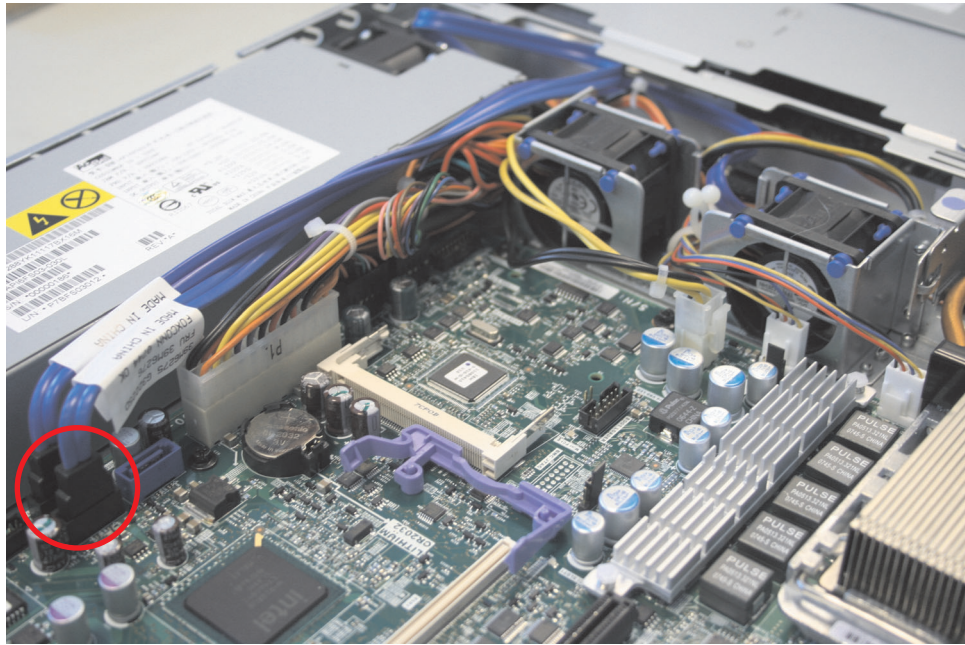

Figure 94. SAN Volume Controller 2145-8A4 SATA cable connectors
8. Notice where the two SATA cables that are connected to the back plate are connected to the system board, as shown in Figure 94 on page 114. Then disconnect the two SATA cables from the system board.